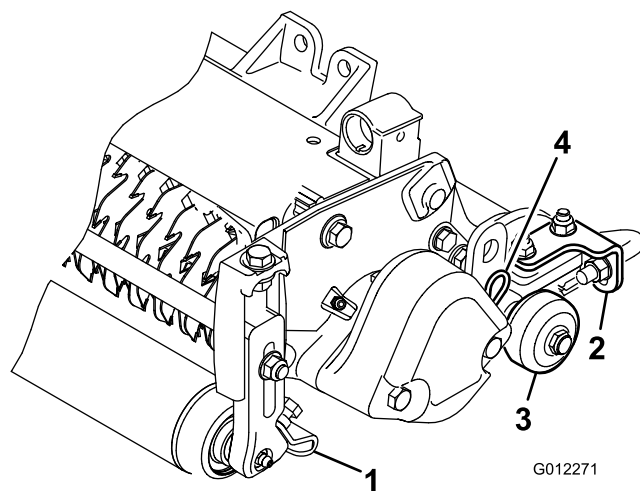

Figure 6
1. Loosen the flange nuts that secure the roller scrapers (Figure 6).
Before the verticutters are lowered to the shop floor or removed from the traction unit, lower the transport rollers (Figure 6) to protect the blades from hard surface contact.
The verticutters can be installed at any of the three locations on the traction unit. Figure 6 shows the orientation of the